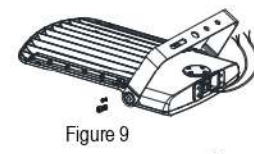

Figure 9
Step 1: First install two big screws. (Figure 9)